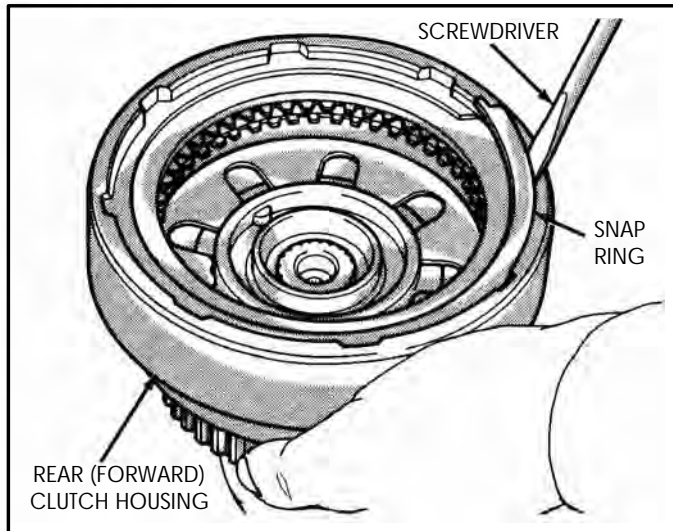

Figure 73
1. Remove snap ring retaining the pressure plate, using a screwdriver, as shown in Figure 73.
18. Install the pressure plate retaining snap ring into its groove, as shown in Figure 73, ensuring that it is fully seated.